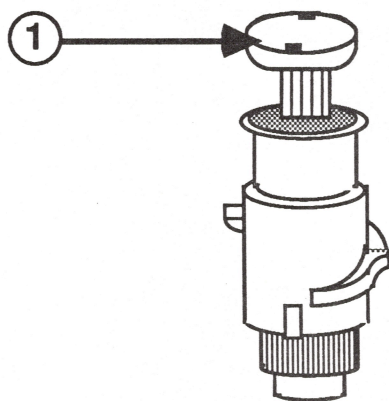

FIGURE 1a
**NOTE:** If you have an ImageWriter II with a serial number of 244451 or above, you will have the color ribbon assembly shown in Figure 1a. Refer to the **ImageWriter II Owner's Manual** for instructions on adjusting that model of the assembly. The following instructions refer to the color ribbon assembly shown in Figure 1.